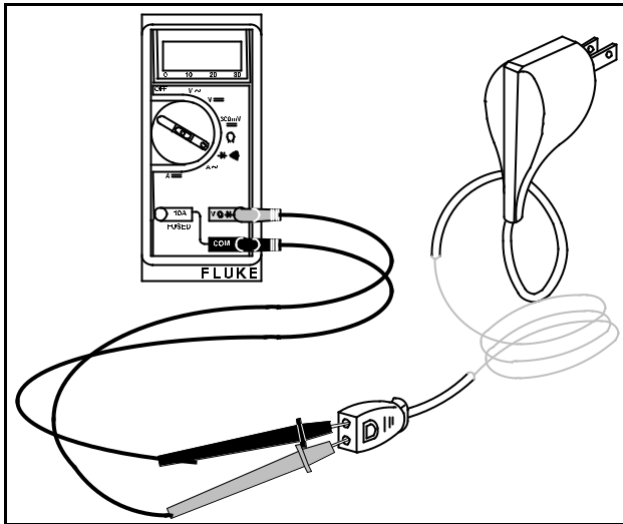

Fig. 651 – TESTING CHARGER – DMM
2. Insert RED meter test lead probe into the small plug receptacle in charger plug, Fig. 651.